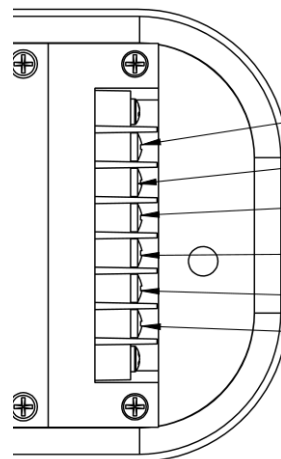

Figure 2. AGPS 400(A) Wiring
2. Connect the four conductor cable to the terminal block on the back of the station to the positions shown in Figure 2.
3. If there are pedestrian field wires present at the station, connect them to the positions shown in Figure 2.